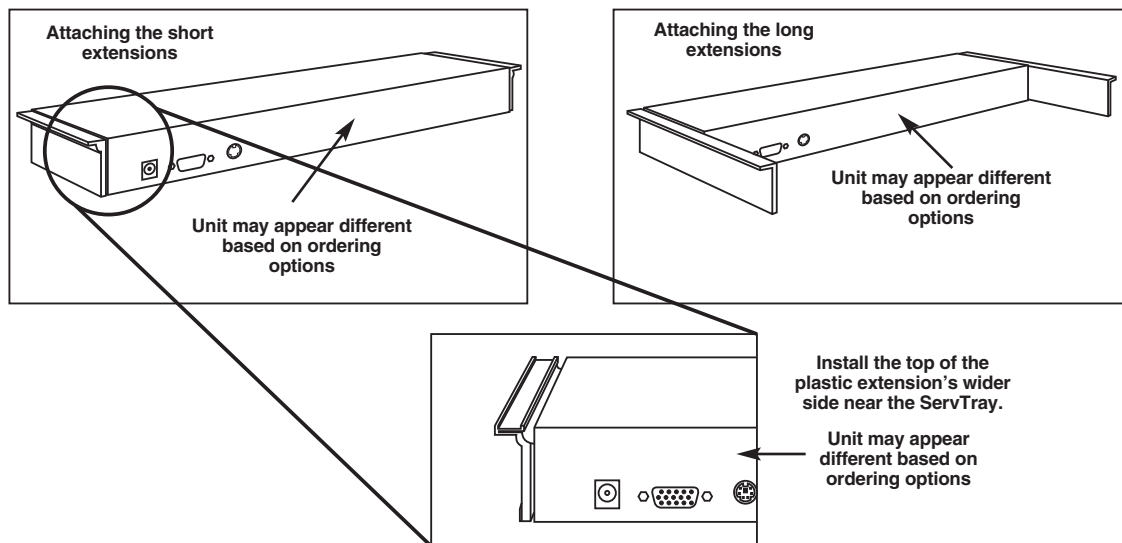

Figure 3-6. Attaching the extensions to the KVM module.
- Using four screws (included), attach the module to the rack. Then slide the extensions (from the Rear Bracket Extension Kit) into both KVM module sides. Attach either the short or long extensions (depending on your kit), as shown in Figure 3-6.